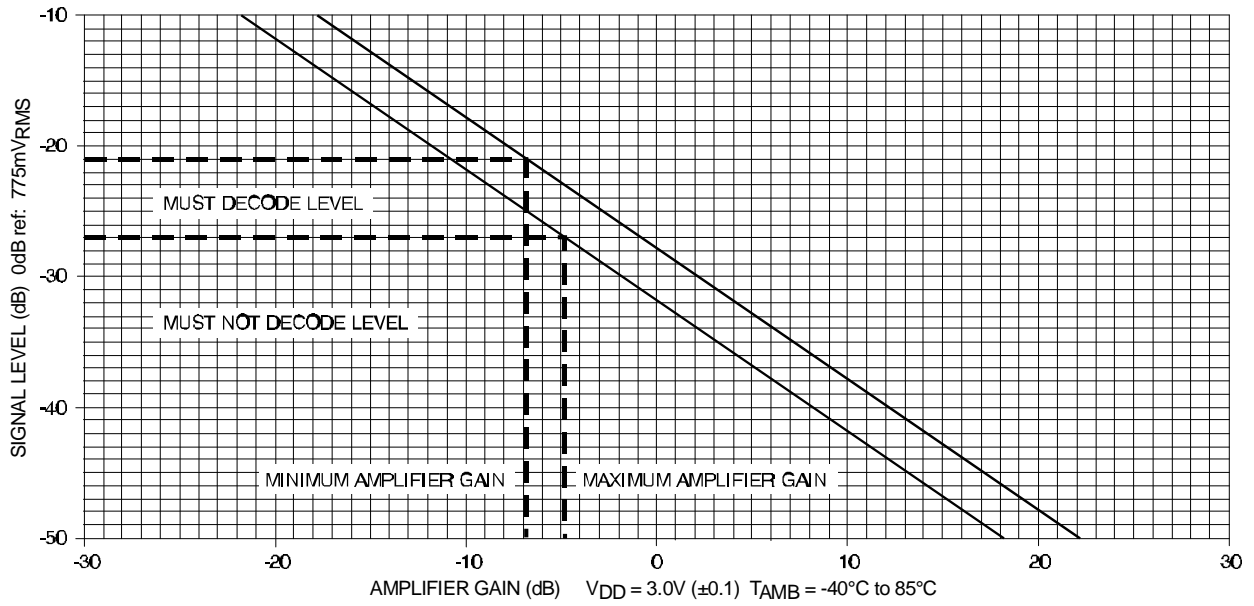
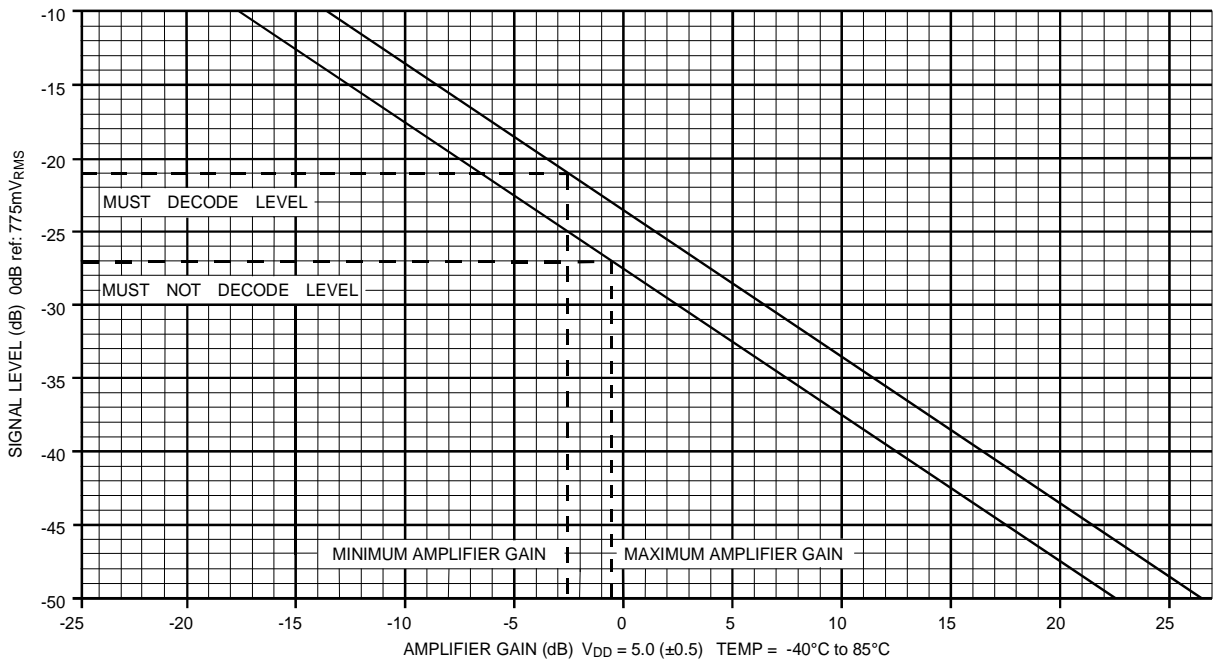

Figure 4: Input Gain Calculation Graph for $V_{DD} = 3.0V$
Figure 5: Input Gain Calculation Graph for $V_{DD} = 5.0V$
With reference to the graphs in Figure 4 and Figure 5, the following steps will assist in the determination of the required gain/attenuation.
1. Draw two horizontal lines from the Y-axis [Signal Level (dB)] in Figure 4 and Figure 5. The upper line represents the required 'Must' decode level. The lower line represents the required 'Must-Not' decode level
Component tolerances should not move the gain-figure outside these limits. The graphs Figure 4 and Figure 5 are for the calculation of input gain components for a CMX631A using a V_{DD} of 3.0 (± 0.1) or V_{DD} of 5.0 (± 0.5).